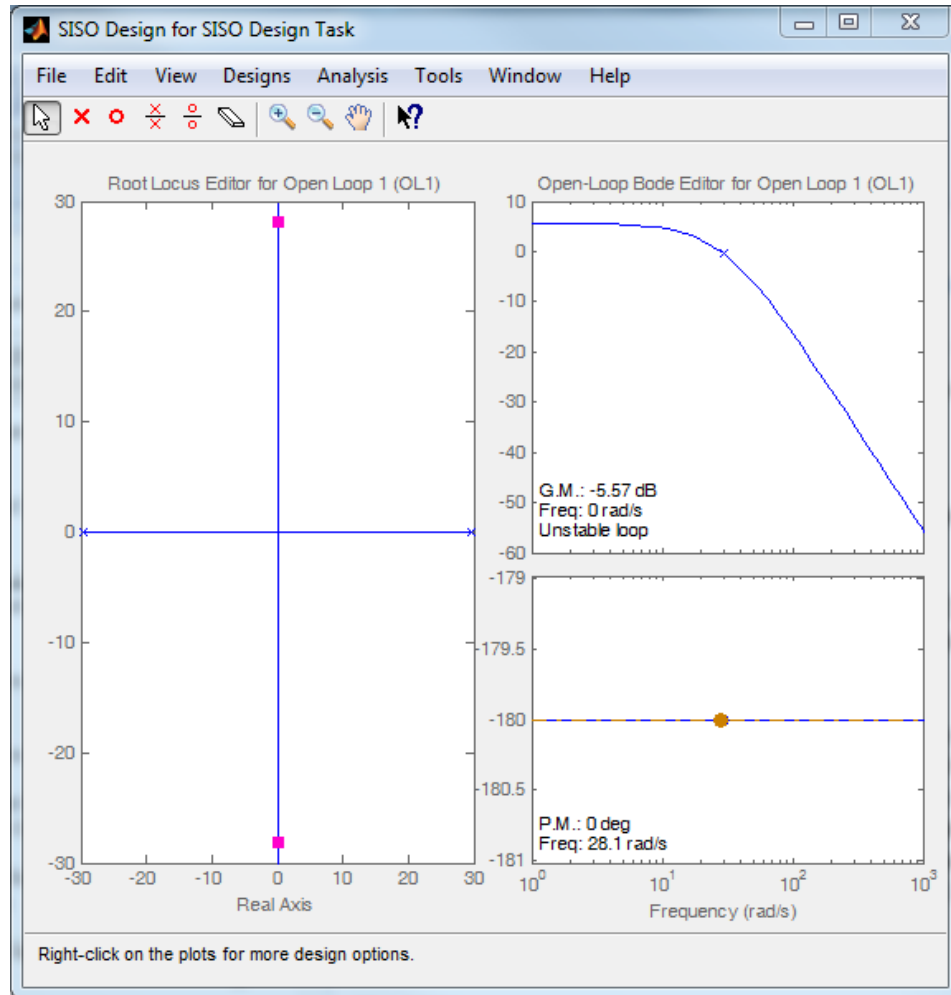

Figure 1 Analysis Plots of the Open Loop System
3. Investigate the root locus and open loop bode (Figure 1):